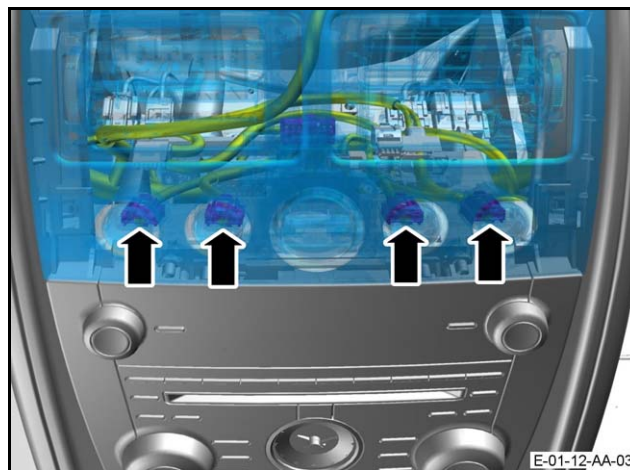

Figure 10
12. Connect the electrical connectors to each of the four transmission control switches (refer to Figure 10).